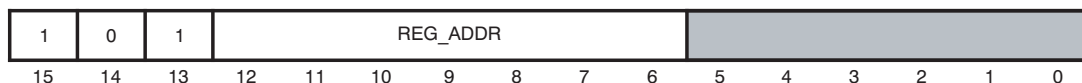

Figure 10. Register Read Instruction Format
Read operations require a start condition followed by two bytes describing both a 10-bit address format and the AFE8220 10-bit slave address. The next two bytes must contain the 16-bit instruction word format, as illustrated in Figure 10. A repeated start followed by the first byte of the slave address is then required to create a combined transaction. Note that the R/ \overline{W} bit is set to 1 (read), indicating that subsequent bytes are to be read from the slave. The AFE8220 presents addressed 16-bit data words in 8-bit pairs until a NACK (N) is provided by the master. After the final pair of read data bytes, an I²C stop condition must be provided to terminate the transaction. Figure 12 illustrates a block read transfer of *N* 16-bit data words. Gray areas denote slave-driven SDA cycles; white areas are master-driven.